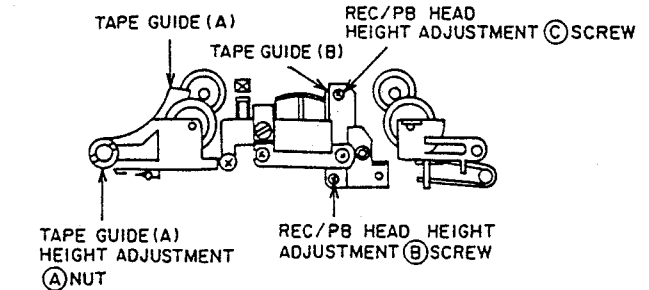

Fig. 4-6
- 1) Remove the TAPE GUIDE (A) HEIGHT ADJUSTMENT Ⓐ SCREW (Refer to Fig. 4-6), then remove the SUPPLY PINCH ROLLER BLK.